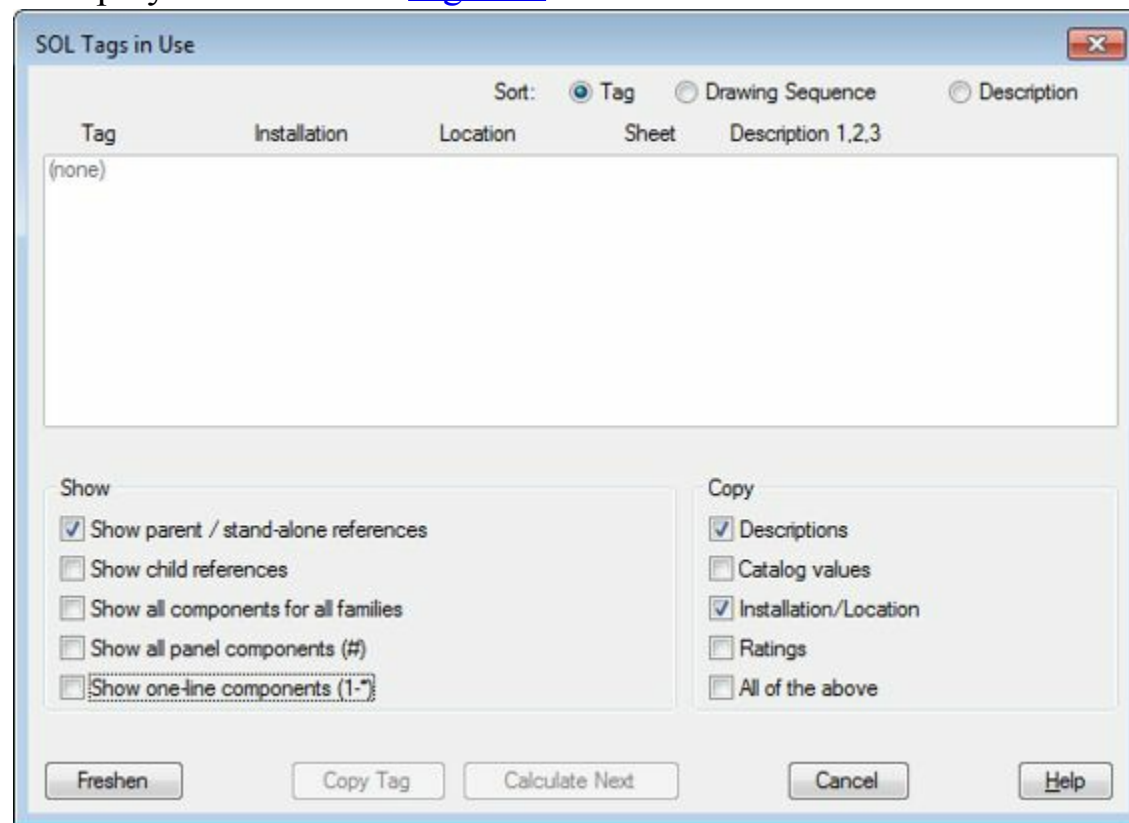

Figure-7. SOL Tags in Use dialog box
- Using the **Schematic** button in the **Component Tag** area. The **SOL Tags in Use** dialog box will be displayed as shown in Figure-7.